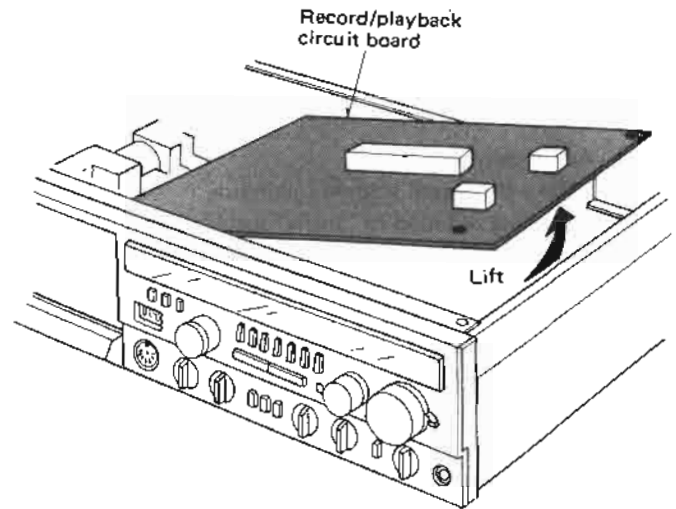

Fig. 10
2. Lift the printed circuit board in the direction of the arrow, and check. (Fig. 10)